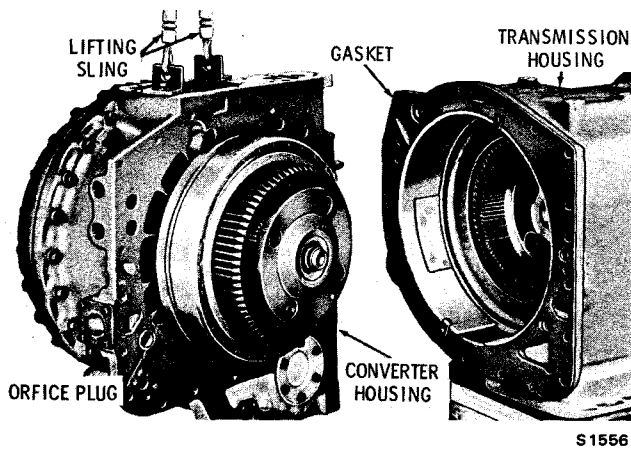

Fig. 5-11. Removing torque converter and housing (CT, CLT, VCLT)
(2) On CT, CLT and VCLT models, lower the transmission to rest on wooden blocks (fig. 5-11). Attach the 2-strand lifting sling to the top of the converter housing, adjusting the sling to support the housing. Remove the 17 remaining bolts and 17 lockwashers from the transmission housing. Remove, as a unit, the converter housing and attached parts. Remove the gasket from the transmission housing.